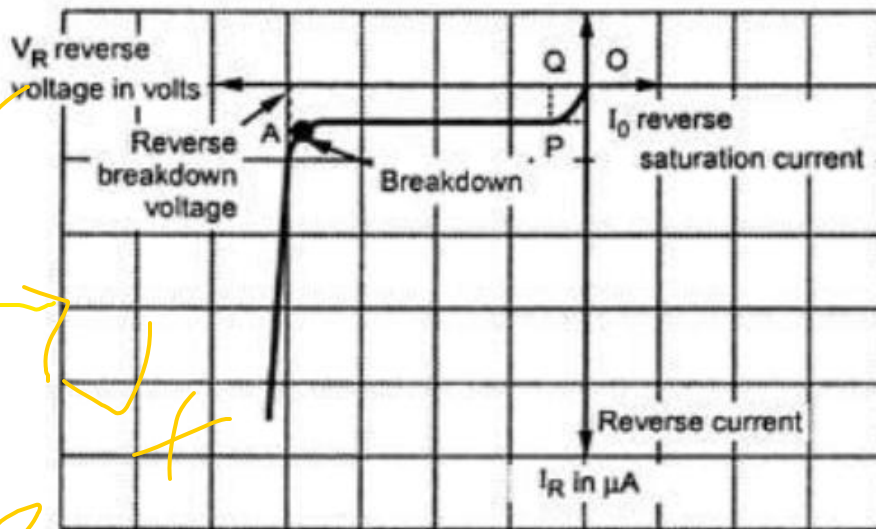

Fig. 1.9 Reverse characteristics of a diode
- The graph of I_R against V_R is called reverse characteristics of a diode and is shown in figure 1.9.